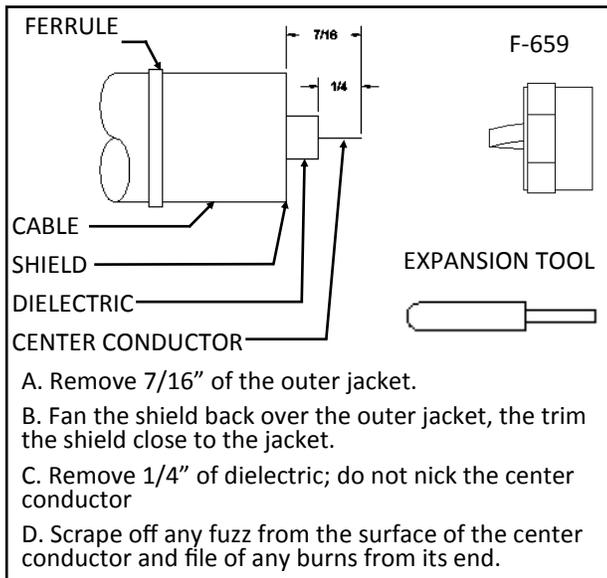

Figure 3: Preparation of Cable
- Prepare cable ends as shown in Figure 3.